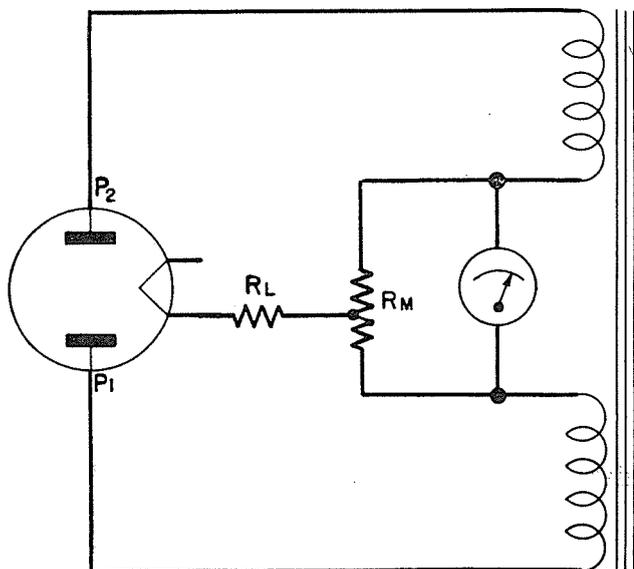

Figure 2-1. Rectifier Diagram
(See Figures 2-1 and 2-2)
a. Examine first the simple full-wave rectifier circuit shown in Figure 2-1. The two power transformer secondary windings have their inner ends connected to a direct-current milliammeter. Across the milliammeter is a center-tapped resistor R_M . The load is shown as a resistance R_L , connected between the center tap and the rectifier filament as in any full-wave rectifier circuit. When rectifier plate P_2 is positive, electron flow is through the upper half of R_M , and the meter tends to deflect in one direction. When P_1 is positive, electron flow is through the lower half of R_M , and the meter tends to deflect in the other direction. With the load resistance fixed and equal forces acting on the meter in both cases, the meter stays at zero because it cannot follow variations at the power line frequency.